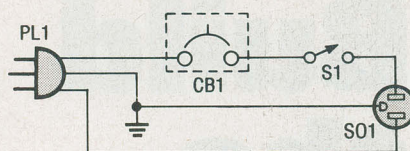

Fig. 1. The AC-power section consists of an AC power cord, a circuit breaker, a toggle switch, and an AC socket all connected in series.
**An Overview of Features.** Believe it or not, the most electrically "active" part of the ProtoMax is the AC-power section. It's located in the upper-left corner of the unit. It consists of an AC power cord, a circuit breaker, a toggle switch, and an AC socket, all connected in series (see Fig. 1). That section is used to provide safe, switchable current for either a test instrument or an AC adapter used to power a prototyped circuit. By the way, buying a universal AC adapter (like a wall-transformer type) will keep you from having to build a power supply for each circuit that you just want to try out.